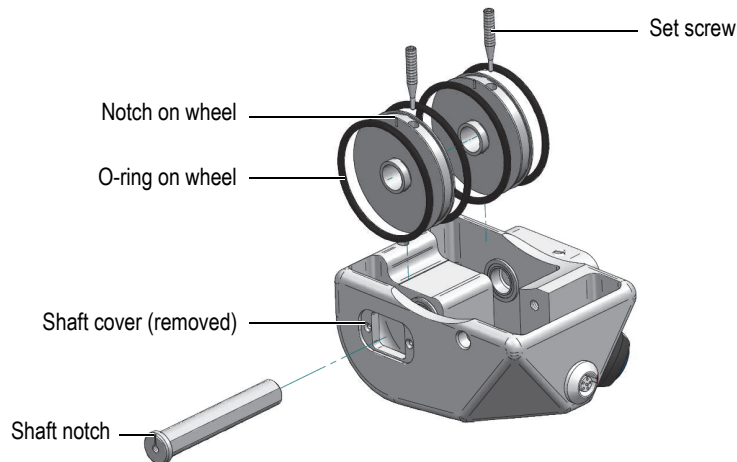

Figure 3-1 Encoder shaft and wheels
Two wheels are mounted on a single shaft that connects to the encoder. The shaft and wheels are shown in a disassembled state in Figure 3-1 on page 23.
2. Carefully pull the O-rings away from the wheel groove to expose the set screws (see Figure 3-1 on page 23).